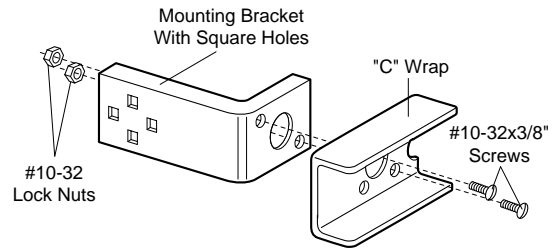

Figure 3
- Connect each assembly to a slotted bracket, using the hardware shown in Figure 3. **Note alignment of brackets for left and right sides of the door.**
- Use bracket mounting holes as a template to locate and drill (2) 3/16" diameter pilot holes on both sides of the garage door, 4"-6" above the floor (but not exceeding 6"). See Warning on page 16.
- Attach bracket assemblies with 1/4"x1-1/2" lag screws as shown in Figure 3.